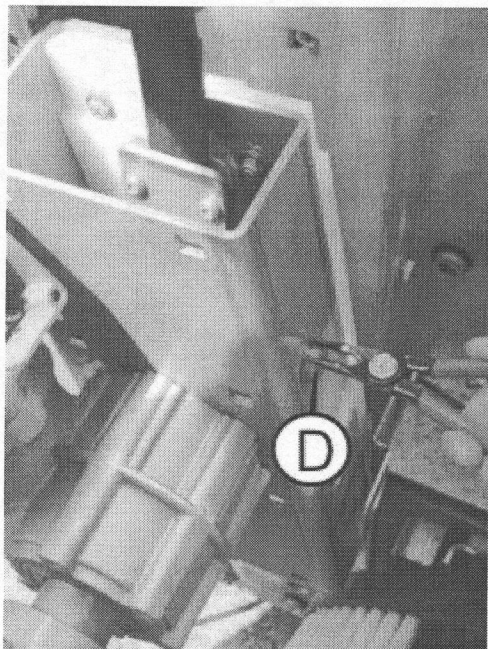

Fig. 042
7. Loosen lifting belt by removing the stud (D) (Fig. 042).